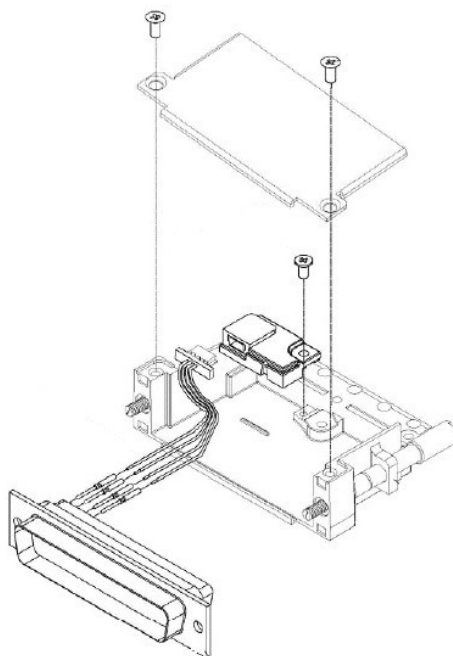

Figure 3. Configuration module installation.
10. Using the install kit (item 3), fabricate connector and label J2751. Add capped & stowed wires in addition to the supplied configuration module wires and the USB port wires. Refer to Figures 3 and 4.